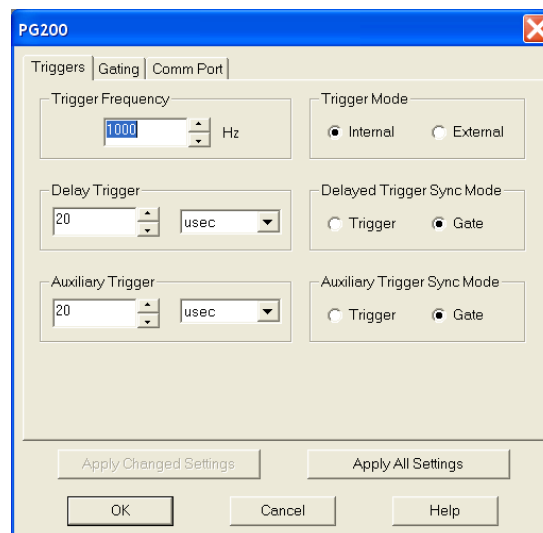

Figure 162. PG200/Triggers tab
8. Click on the **Triggers** tab (Figure 162).